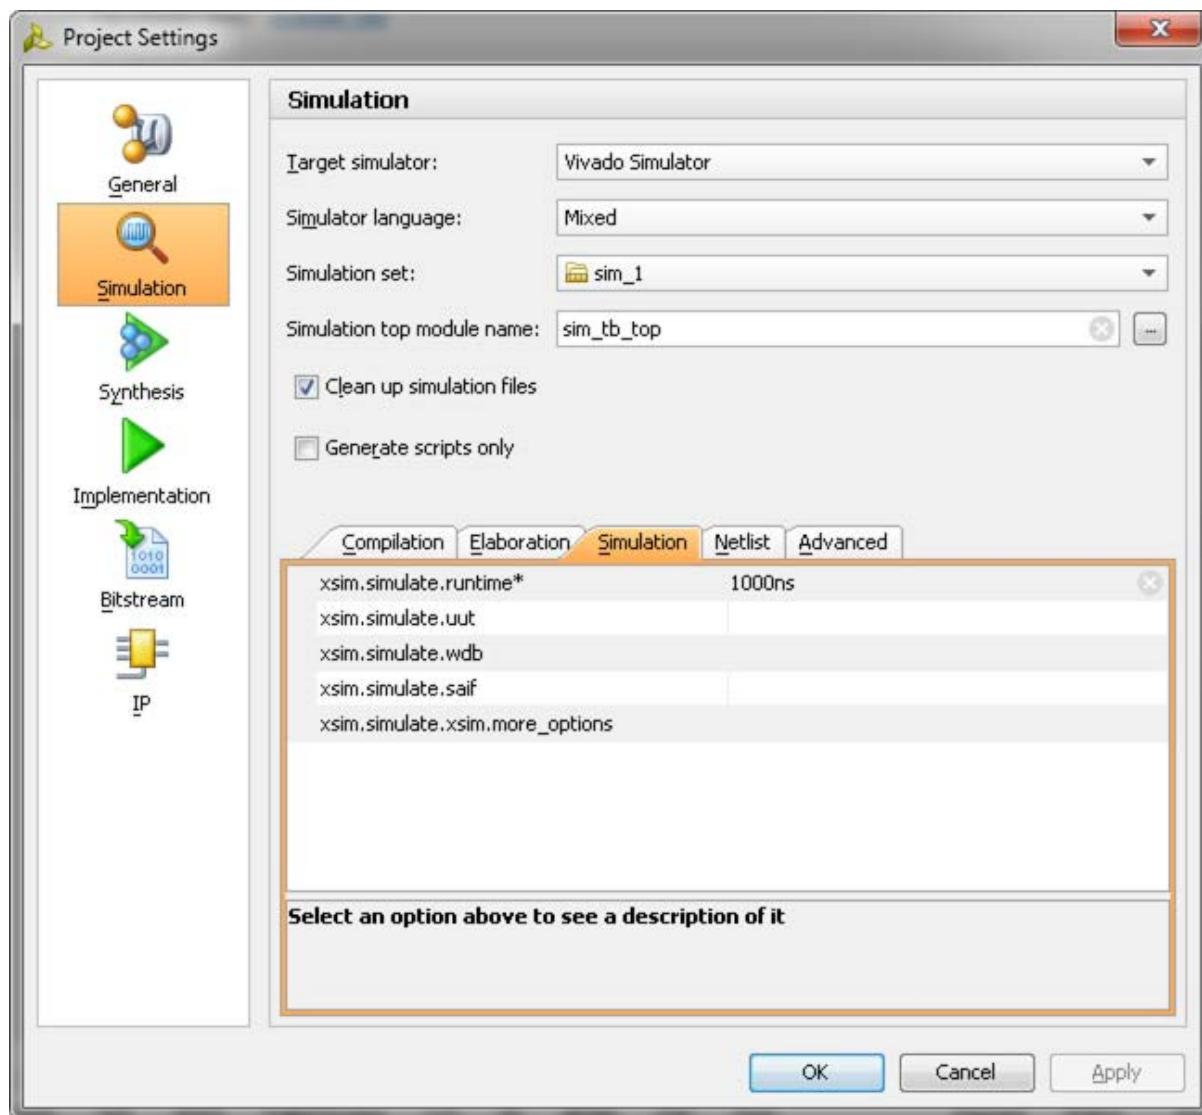

Figure 1-46: Simulation with Vivado Simulator
1. In the **Open IP Example Design** Vivado project, under **Flow Navigator**, select **Simulation Settings** (Figure 1-46).
2. Under the **Simulation** tab as shown in Figure 1-46, set the xsim.simulate.runtime as 1 ms (there are simulation RTL directives which stop the simulation after a certain period of time, which is less than 1 ms). Apply the settings and select **OK**.
- b. Under the **Simulation** tab, set the `modelsim.simulate.runtime` to 1 ms (there are simulation RTL directives which stop the simulation after certain period of time, which is less than 1 ms), set `modelsim.simulate.vsim.more_options` to `-novopt` as shown in Figure 1-46.